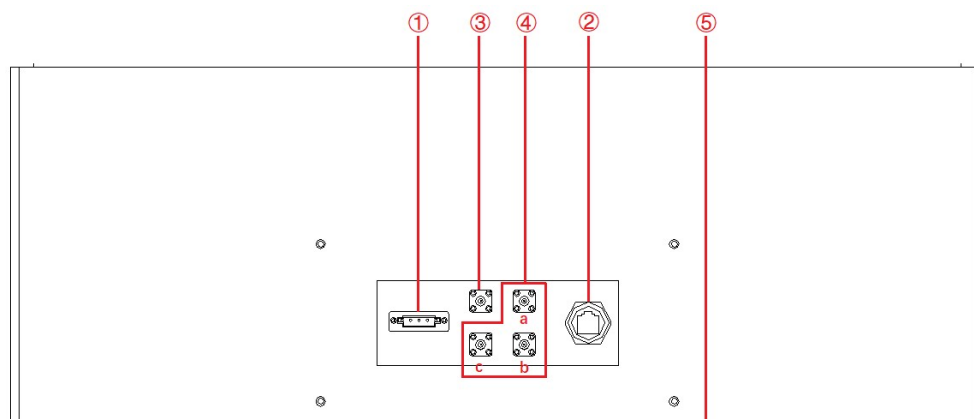

Figure 1-13 Rear panel
The TTL interface is located on the rear panel of power supply (Figure 1-13③).